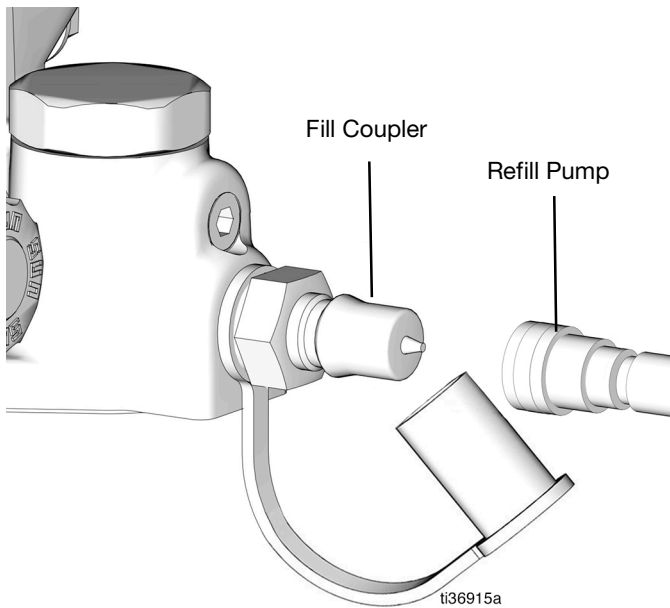

FIG. 74
34. Connect the refill pump to the fill coupler (FIG. 74).